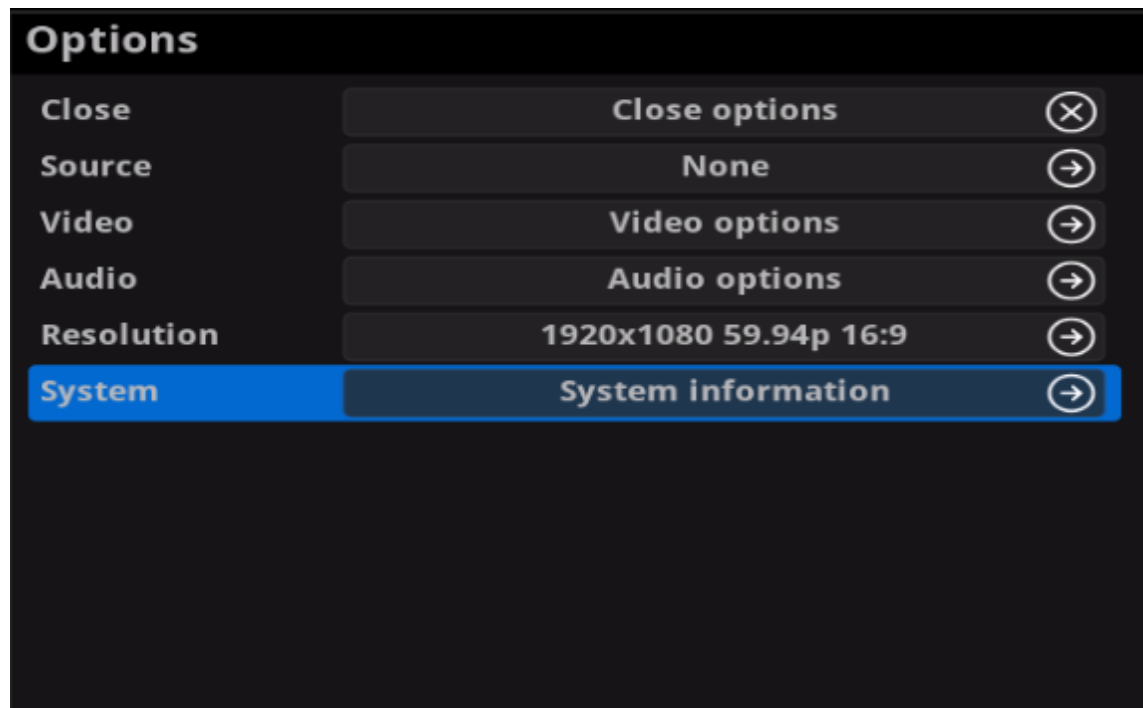

Figure 1 Select System in Options menu
- 1 Connect your decoder via Ethernet, power it up and connect a presentation device as shown in the Figure1. Connections.